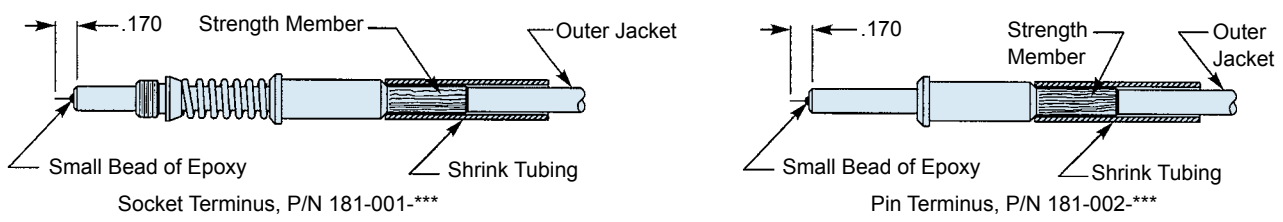

Figure 2
- Add a Small Bead of Epoxy to the Tip of the Terminus (See Figure 2).